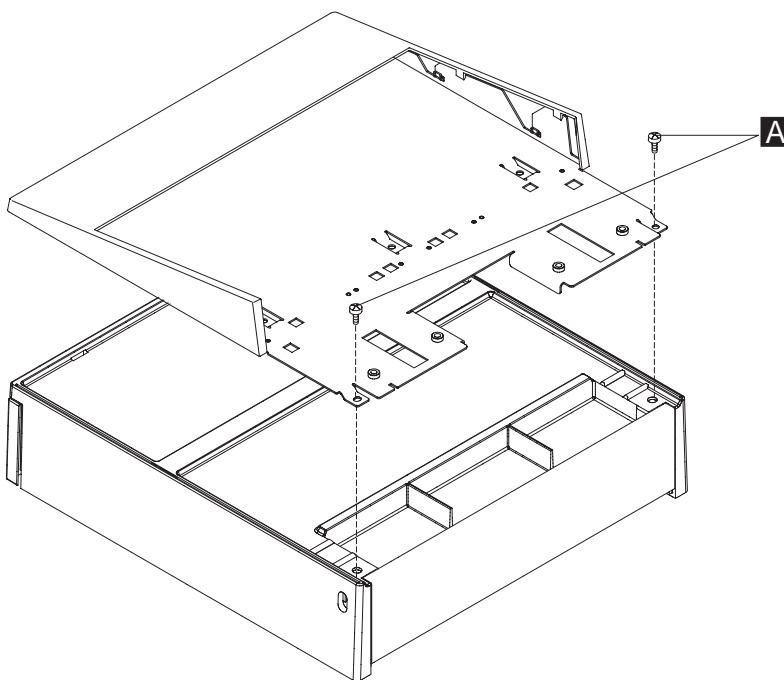

Figure 21. Attaching the integration tray to cash drawer
- b. Attach the cash drawer integration tray to the cash drawer by tightening two M6x8 screws **A** at the rear of tray, as shown in Figure 21.